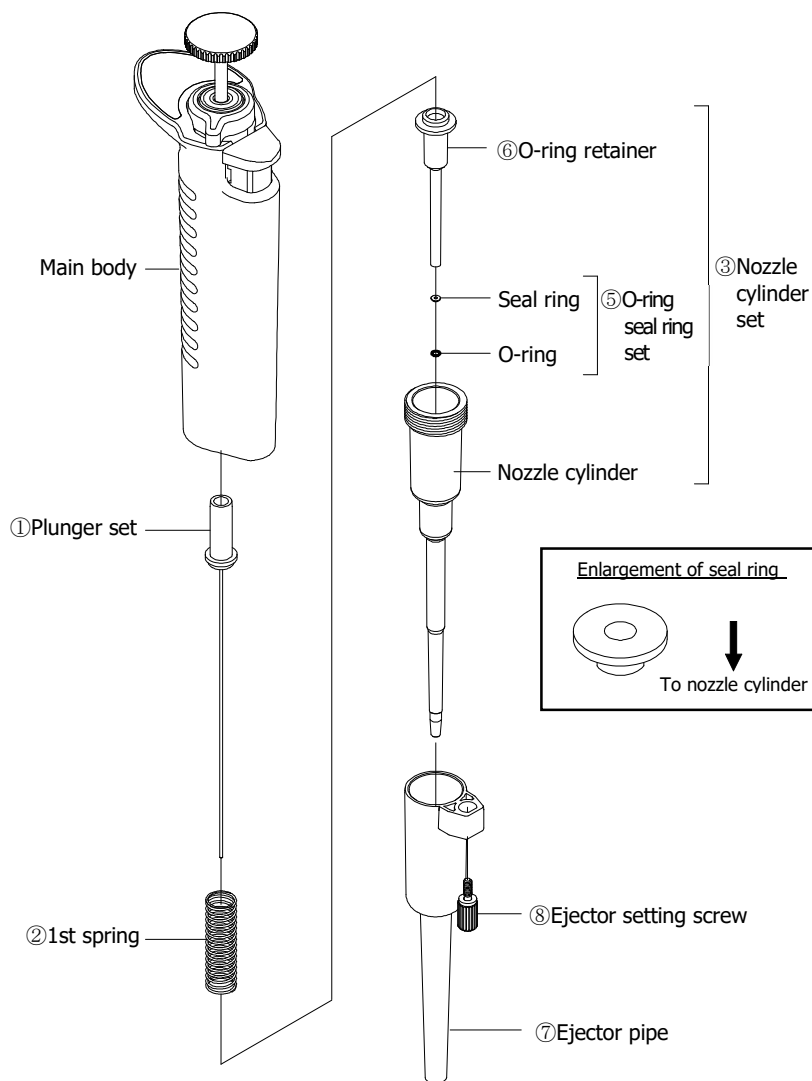

Fig. G1
3) Disassemble the internal parts as shown in; (Fig. G1) for Models: 2 $\mu$ L, 10 $\mu$ L and 20 $\mu$ L, (Fig. G2) for Models: 100 $\mu$ L and 200 $\mu$ L, and (Fig. G3) for the Model: 1000 $\mu$ L.
- For models: 2 $\mu$ L, 10 $\mu$ L, 20 $\mu$ L (Fig. G1), 100 $\mu$ L and 200 $\mu$ L (Fig. G2), 1000 $\mu$ L (Fig. G3)
- Models: 2 $\mu$ L, 10 $\mu$ L, 20 $\mu$ L (Fig G1), 100 $\mu$ L and 200 $\mu$ L (Fig. G2), 1000 $\mu$ L (Fig. G3)
Circled Numbers in (Fig. G1) corresponds to Parts Numbers in the replacement parts list.